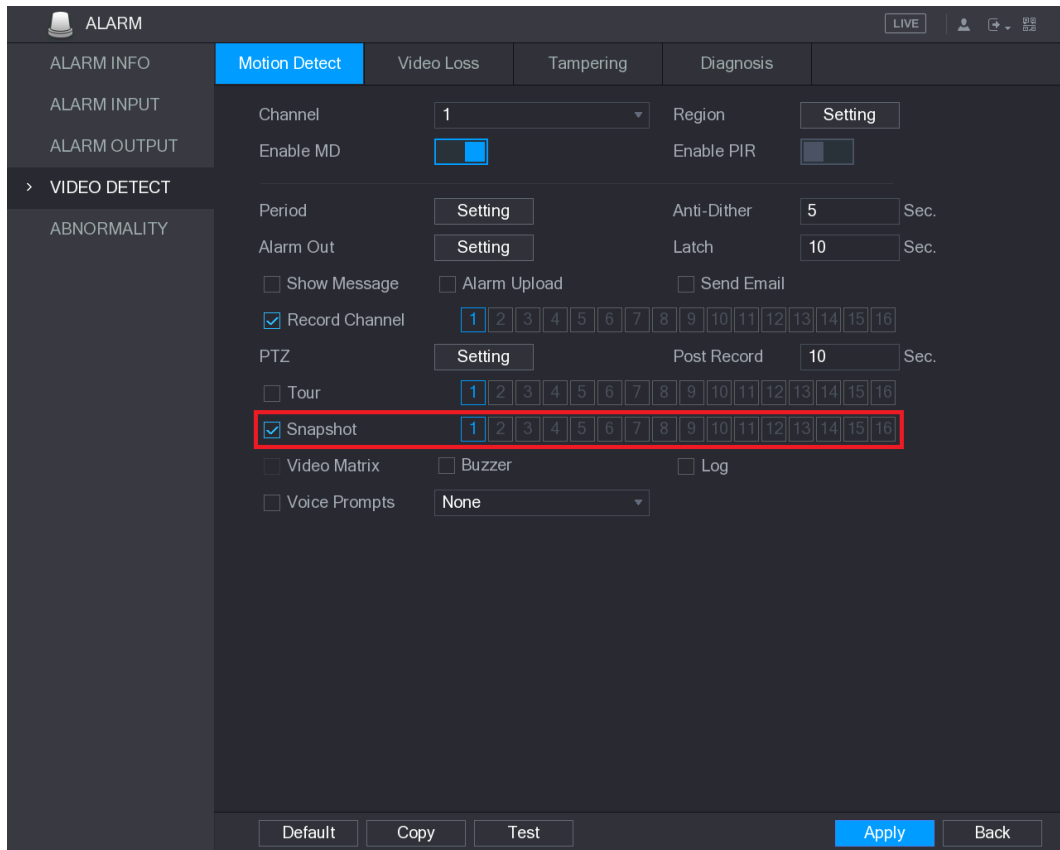

Figure 5-92
**Step 3** Select **Main Menu > ALARM > VIDEO DETECT**, and select the event type to configure, for example, select the **Motion Detect** tab. See Figure 5-92.